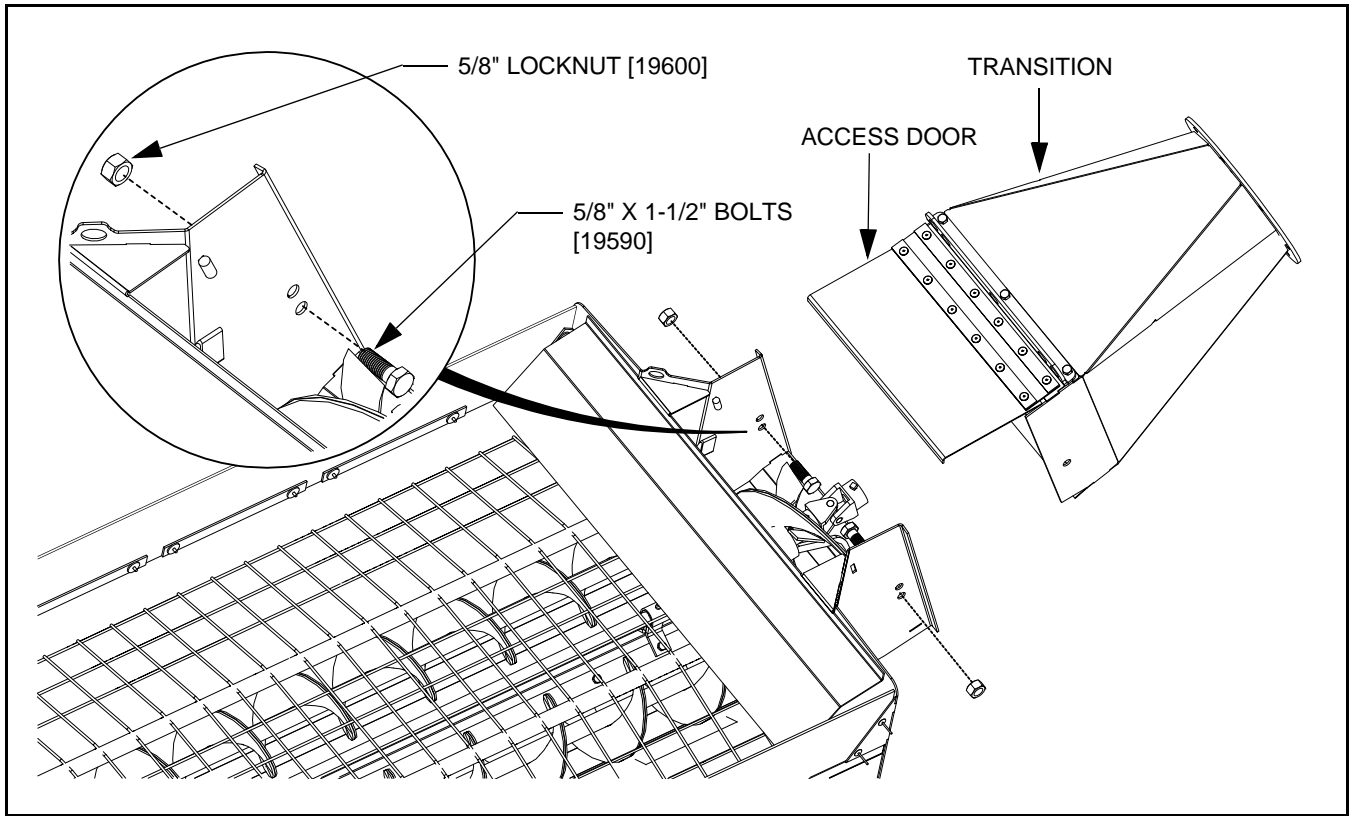

Figure 1
1. Attach the transition to the lower (for A298) or upper (A299) holes in the intake hopper with two 5/8" x 1-1/2" bolts and 5/8" locknuts (see Figure 1). Do not over-tighten; tighten snug only as these bolts act as pivot points.